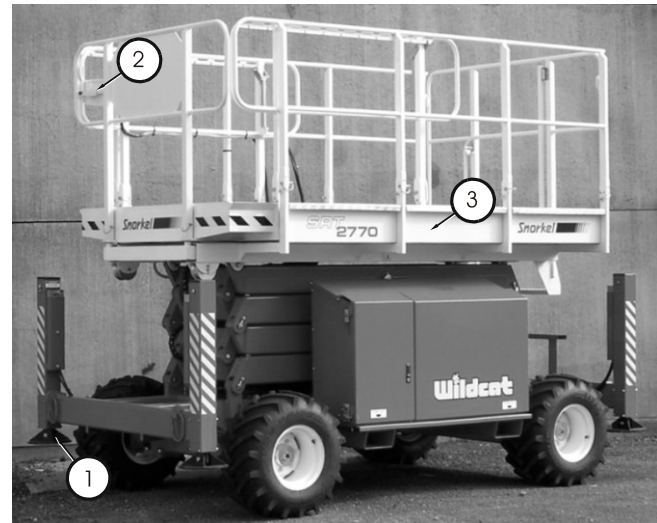

Figure 8.22
Before operating the stabilisers check to see that the ground conditions under the four stabiliser pads (see Figure 8.22) is firm, stable and unobstructed.
1. The engine must be running and the SR set for platform control box ② operation (see Figure 8.22).